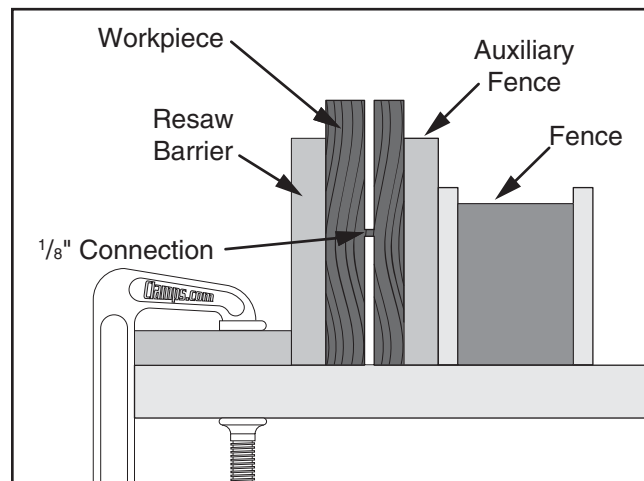

Figure 57. Ideal completed resaw cut.
6. Raise the blade approximately an inch, or close to half the height of the workpiece (**Figure 57**), whichever is less.
9. Repeat **Steps 6–8** until the blade is close to half of the height of the board to be resawn. The ideal completed resaw cut will leave an $\frac{1}{8}$ " connection when the resawing is complete as shown in **Figure 57**. Leaving an $\frac{1}{8}$ " connection will reduce the risk of kickback.